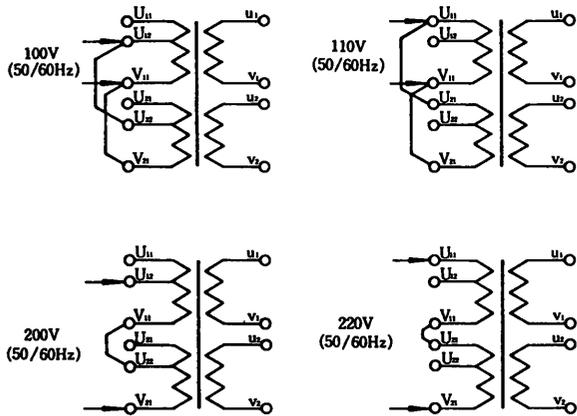

Fig. 5 Connection of Power Transformer
- (2) Supply voltage should be 100/110 V $\pm 10\%$ or 200/220 V $\pm 10\%$.
- (3) The primary side of the power transformer should be connected in accordance with the specified voltage as shown in Fig. 5.
- (4) A thermal overload relay and the motor should be connected in series across terminals A and B of Servopack, connecting the motor terminals A and B to the corresponding terminals on the Servopack (for forward rotation: counterclockwise).
- (5) The positive TG terminal (+) and the negative terminal (-) should be connected to terminals 4 and 3 of Servopack, respectively (for forward rotation).